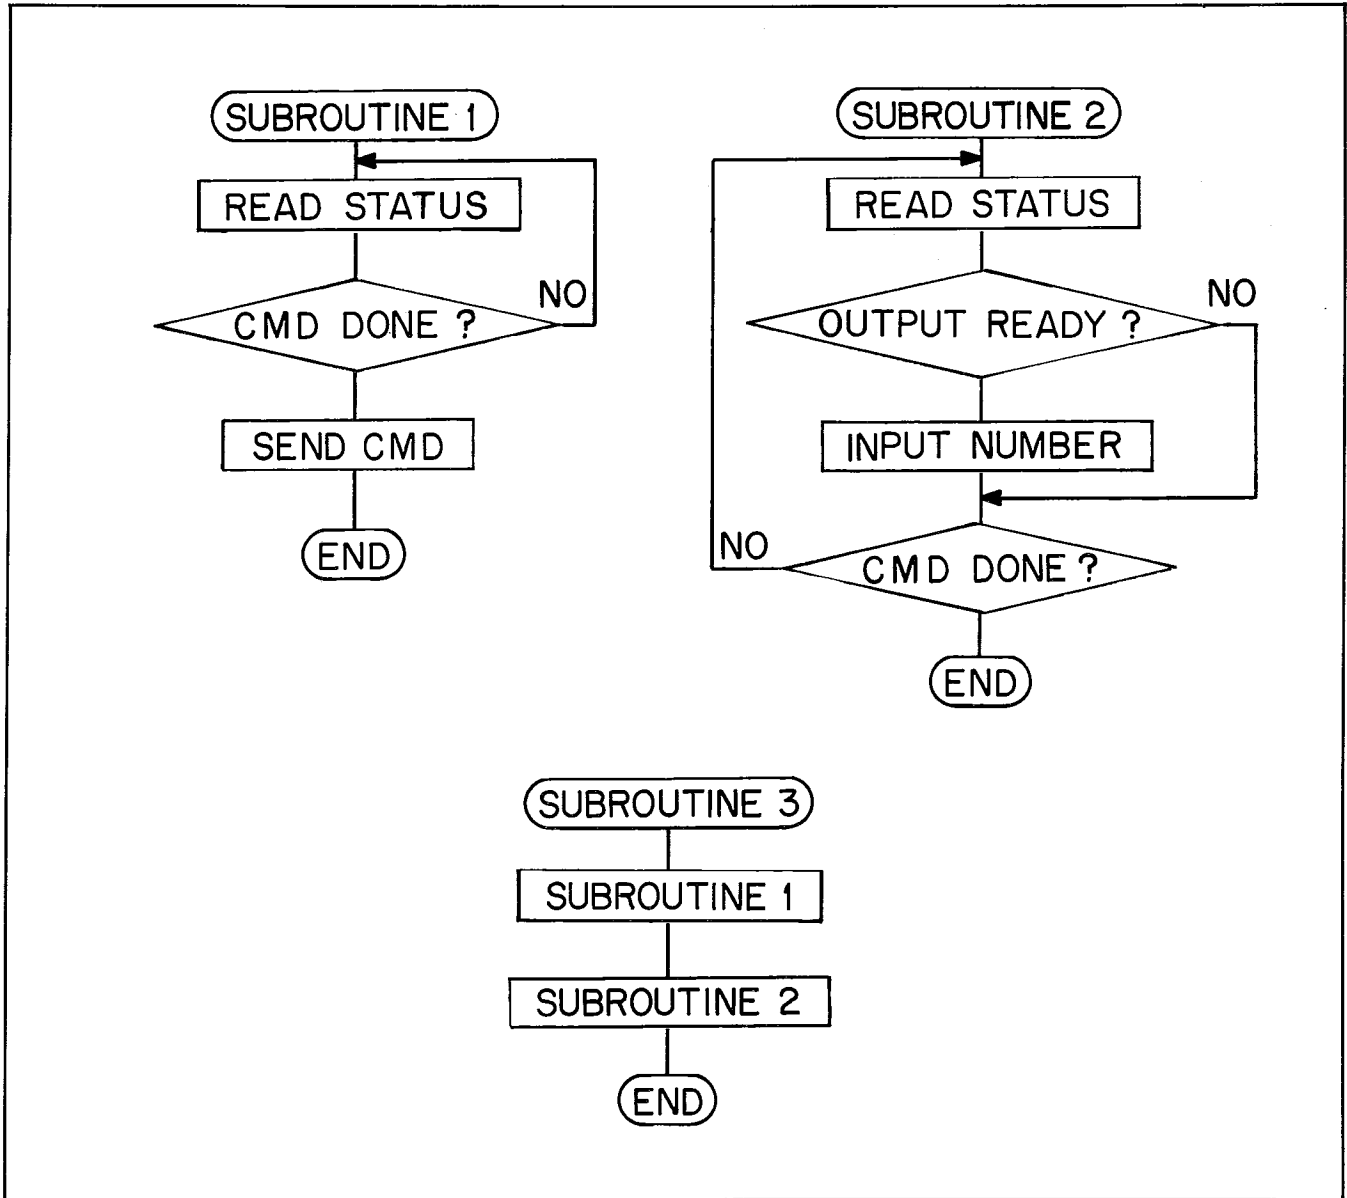

Figure IV-12. DEVICE DRIVER SUBROUTINES
Like the F-BAND cards, the Internal Oscillator card can be field installed. However, the installation is a bit more complex since, in addition to the circuit card, it involves a cable, a BNC connector, and a potentiometer. The cable provided with the circuit card has a connector at one end and a potentiometer and BNC connector at the other end. When installed, the circuit card is positioned as shown in Figure IV-4. Note that the cable connector mates with matching pins on the circuit card. From there, the cable is dressed along the rear of the instrument to the panel mounting holes. As shown in Figure IV-12, the BNC connector mounts in the upper opening and the potentiometer in the lower opening. The circuit board adjustments should not be disturbed; the board is prealigned at the factory. The installation is the same for both the M5205 and the M5206. **NOTE: FOR PERSONNEL SAFETY, THE INSTALLATION SHOULD ONLY BE PERFORMED BY A QUALIFIED SERVICE TECHNICIAN, AND THEN ONLY WITH THE INSTRUMENT DISCONNECTED FROM ALL SOURCES OF POWER.**
(2) **THE DEVICE DRIVER SUBROUTINES:** Programmers are advised to use these subroutines (Figure IV-12) to handle basic input and output. With these subroutines, I/O is accomplished by putting a command string into a string variable and calling the appropriate